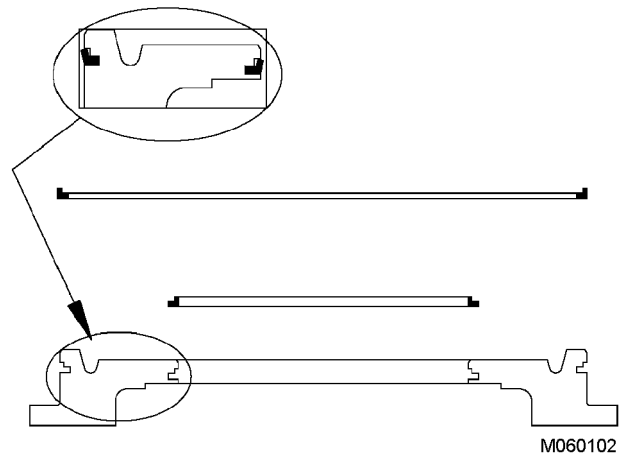

FIGURE 7-66.
25. Install both hook-type seal rings (17) in the grooves in the shaft. Rotate the rings so the slits in the rings are 180° apart from one another.
26. Install small seal ring (24) in the inside groove, and large seal ring (22) in the outside groove of piston (23). Lubricate the seal ring grooves with an oil-soluble lubricant such as engine assembly grease before installation. Refer to the Figure 7-66 for proper orientation.